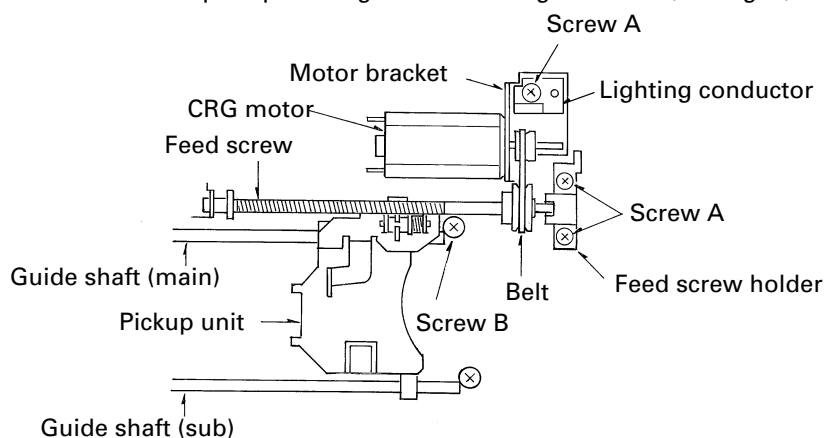

Fig.9
6. Remove screw A and then remove the carriage motor assy, lighting conductor, feed screw holder, feed screw and belt (see Fig. 9).
7. Remove screw B on the main side and the pickup unit together with the guide shaft (see Fig. 9).